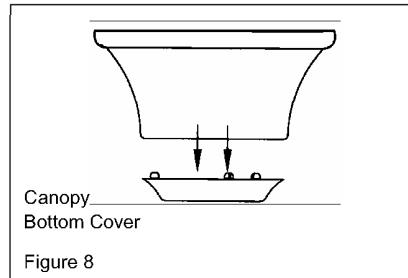

Figure 8
Note: For mounting angles between 20-45 degrees, please replace the canopy bottom cover installed on the bottom of the canopy opening with the extra 45-degree canopy bottom cover included. (See Figure 8)
3. Remove the decorative canopy bottom cover from the canopy by depressing the three studs (Figure 8).